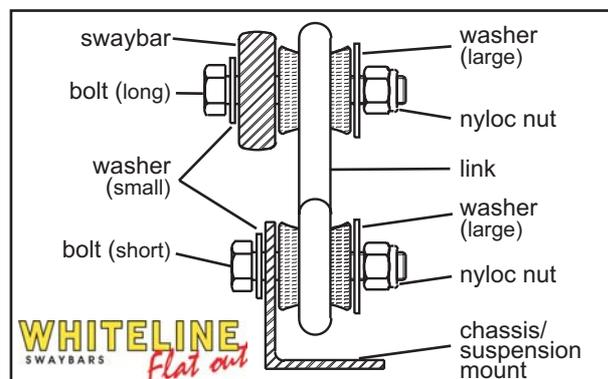

Figure 1.
8. Using remaining hardware and new links, connect the swaybar to the control arm bracket, as shown in figure 1 and photos 1 and 2.